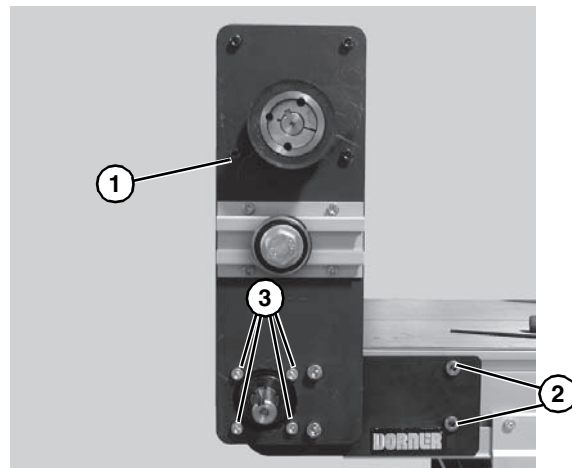

Figure 5
3. Attach top mount drive assembly (**Figure 5, item 1**) with two (2) M8 screws (**Figure 5, item 2**) and four (4) M6 screws (**Figure 5, item 3**). Tighten M6 screws to 146 in-lbs (16.5 N-m) and M8 screws to 288 in-lbs (32.5 N-m).